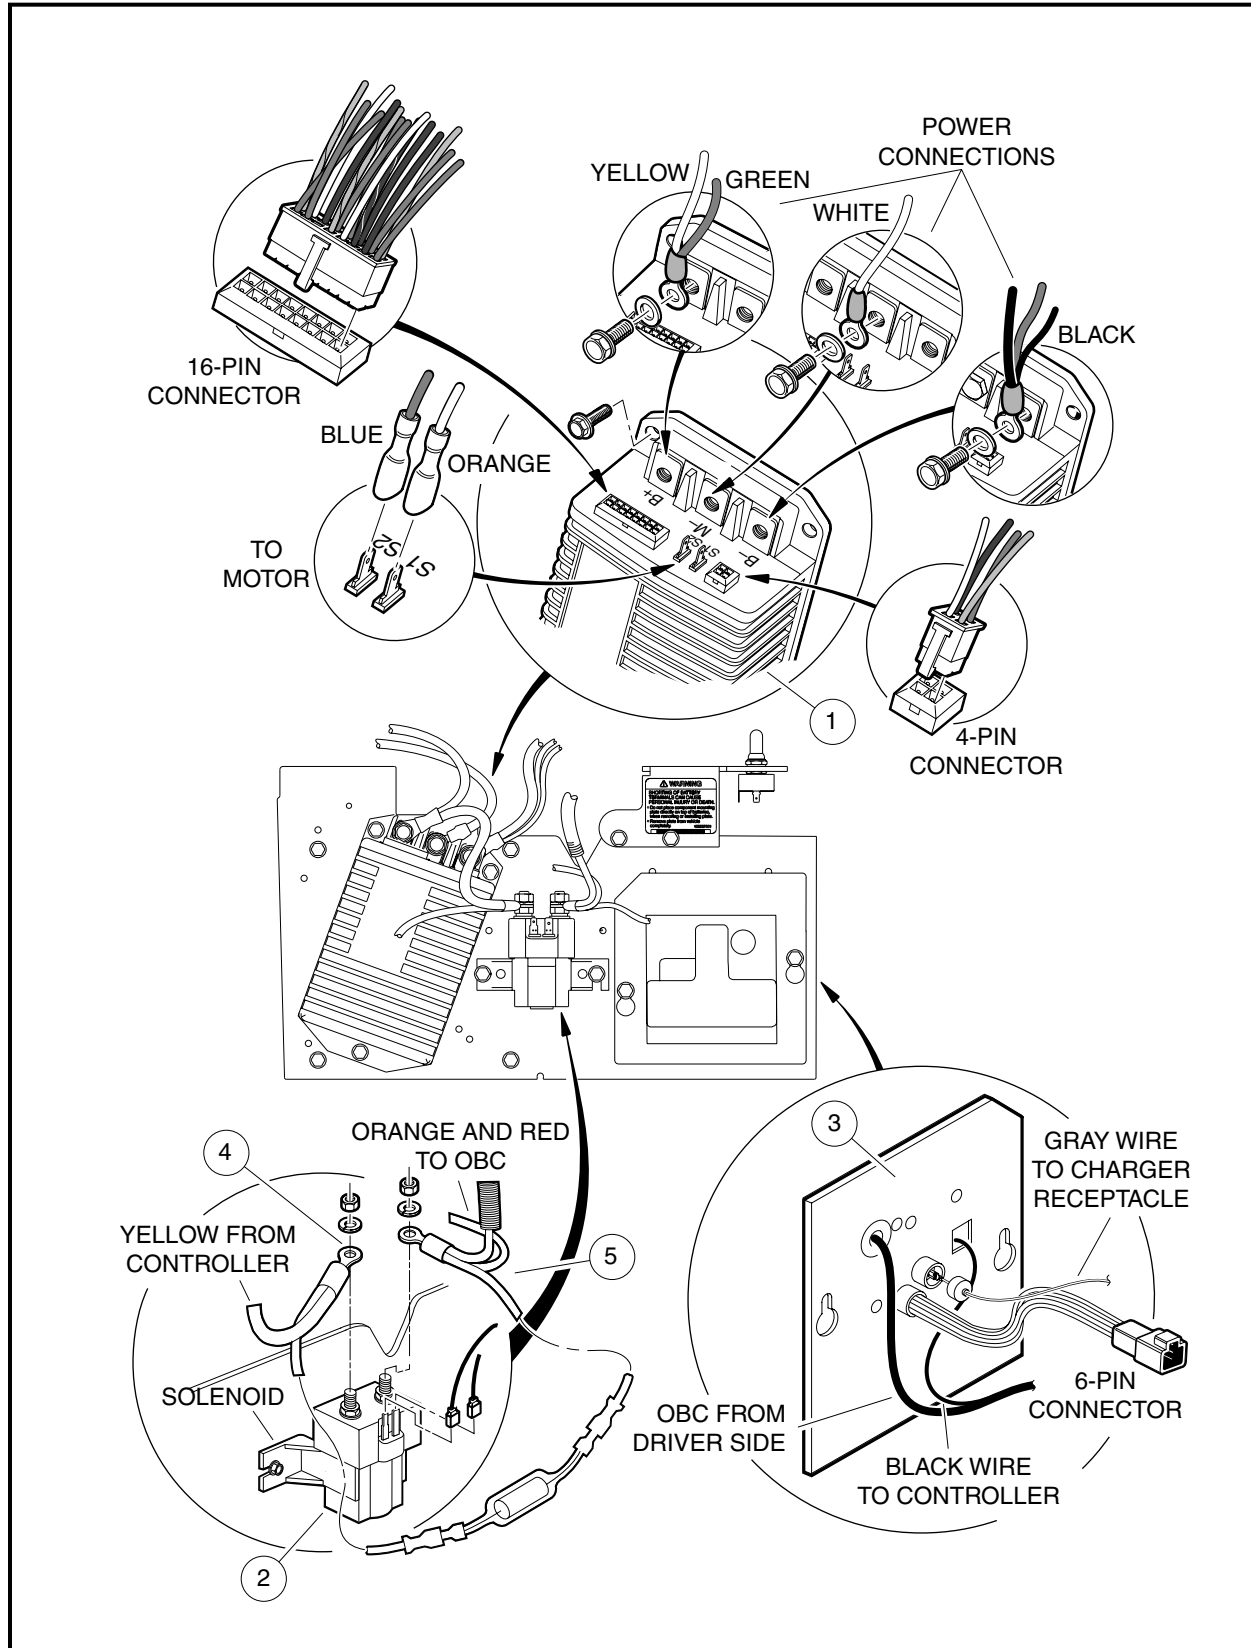
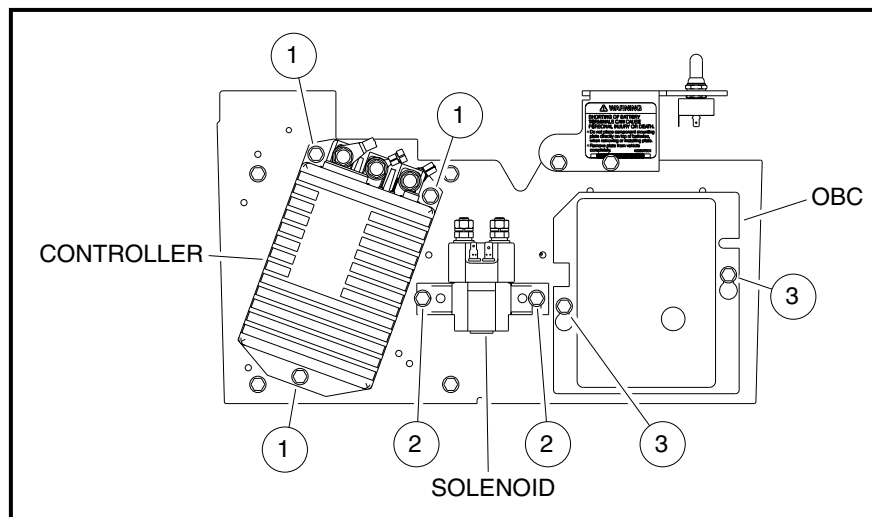

Figure 12-9 Electronics Module Removal
Figure 12-10 Component Mounting Plate
3. Remove three power-connection screws on top of the controller (1) and remove the wires from the screw threads (**Figure 12-9, Page 12-10**).
5. Remove two nuts on top of the solenoid (2) posts and remove the wires from the posts.
7. On driver side of the electronic module, separate the 6-pin connector and disconnect all leads to the on-board computer (OBC) (3) and two wires to tow switch.
4. Remove the three self-tapping screws (1) that hold the controller to the component mounting plate and remove the controller from the vehicle (**Figure 12-10, Page 12-12**).
1. Install the three self-tapping screws (1) that hold the controller to the component mounting plate and tighten to 5.5 ft-lb (7.5 N·m) (**Figure 12-10, Page 12-12**).
4. Loosen both solenoid mounting screws (2) (**Figure 12-10, Page 12-12**).
1. Mount solenoid onto component mounting plate with screws (2) (**Figure 12-10, Page 12-12**).
2. Tighten screws (2) to 5.5 ft-lb (7.5 N·m).
3. Connect yellow (4) and red (5) wires (**Figure 12-9, Page 12-10**). Tighten to 72 - 84 in-lb (8 - 9.5 N·m).
3. Disconnect wires (**Figure 12-9, Page 12-10**).
4. Loosen, but do not remove, the two self-tapping screws (3) holding OBC to component mounting plate (**Figure 12-10, Page 12-12**).
5. Slide OBC upwards to align heads of self-tapping screws (3) with the two key holes in the OBC face plate and remove OBC.
1. Install the OBC onto the component mounting plate by aligning the two holes on the OBC face plate with two holes on component mounting plate. Slide OBC down and align heads of self-tapping screws (3) with smaller part of two holes in OBC face plate (**Figure 12-10, Page 12-12**). Tighten screws to 5.5 ft-lb (7.5 N·m).
2. Connect wires (**Figure 12-9, Page 12-10**). Make sure all connections are fully seated and boot on gray sense lead is properly seated.